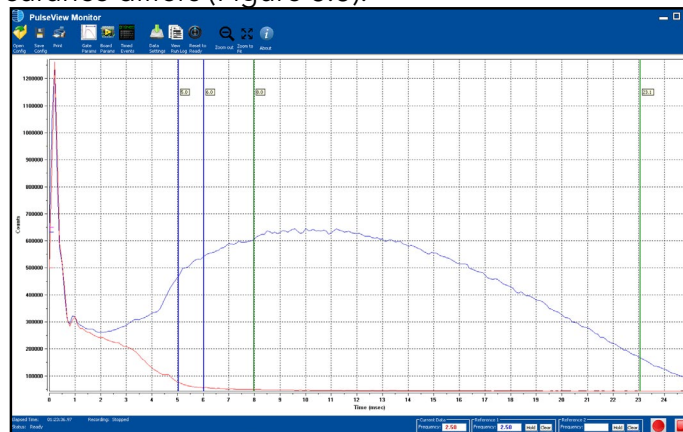

Figure 6.6. Sulfur Emission and Gate Settings for Maximizing Sulfur Response Using a 3-mm Combustor
- With a 3-mm combustor, the sulfur emission extends to around 20 ms, and the emission appearance differs (Figure 6.6).